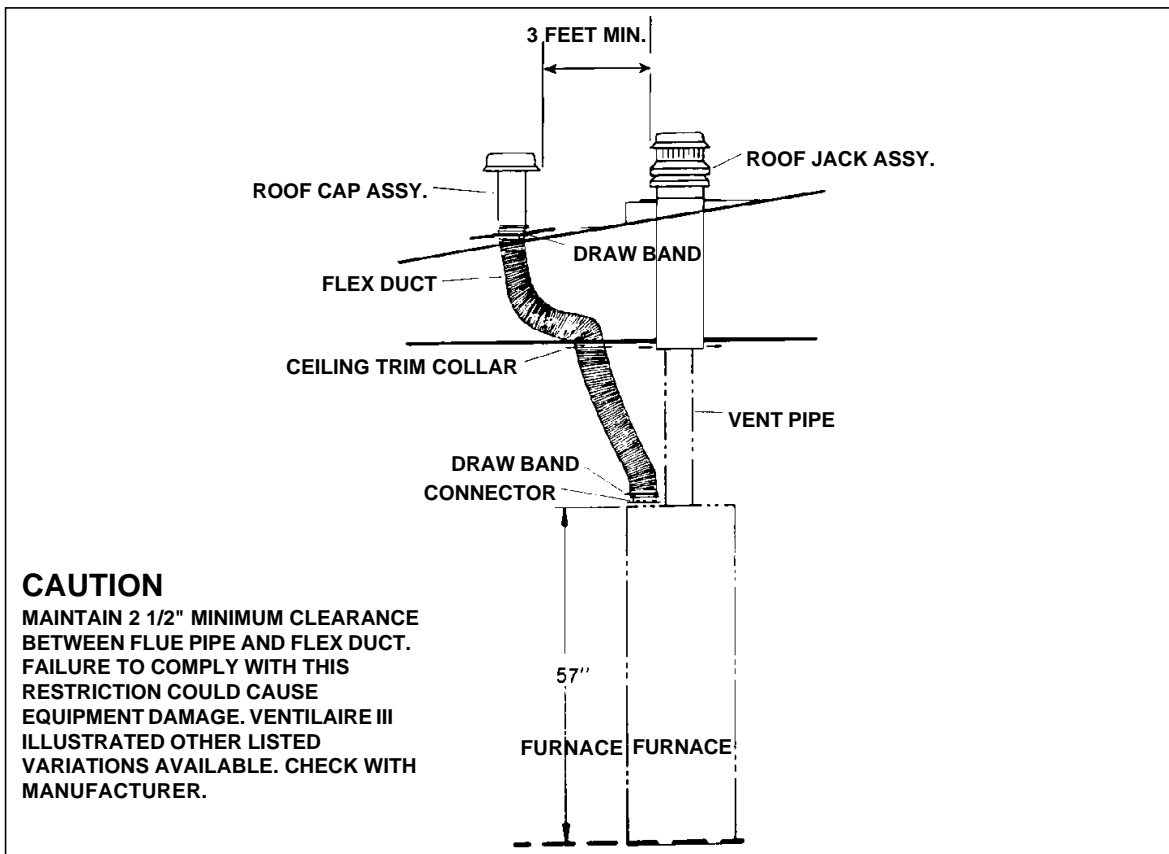

Figure 10. Typical Installation
in H.U.D. Standard Part 3280.103 (b) (2). These packages introduce outdoor air into the living space during furnace blower operation. The VentilAire IV also serves to exhaust moist and/or hot air from the attic space. See Figures 10 and 11 for typical installation. Complete installation instructions are supplied with each air quality package.